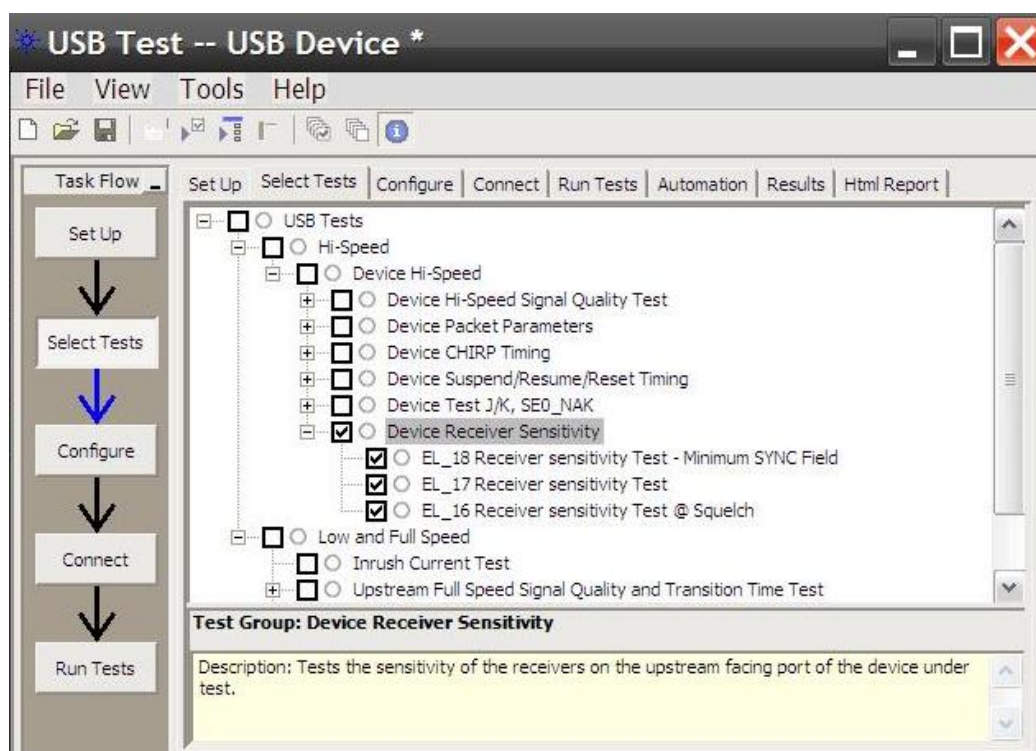

Figure 55. Device Receiver Sensitivity Test
1. Select the test items in the USB Automated Test software on the oscilloscope as shown in Figure 55, and ensure sure the Test Type configuration option is set to Hi-Speed Near End before running the test.